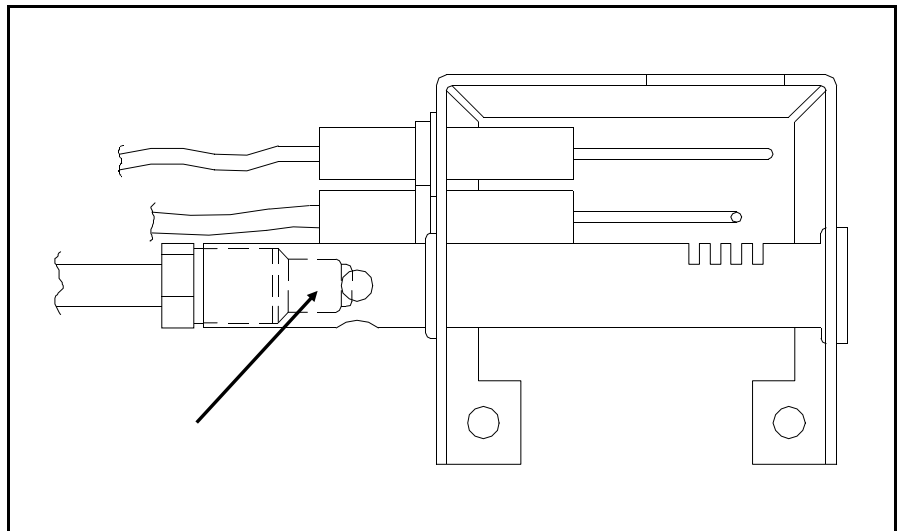

Figure 5.38 Burner Assembly
35. Check the Burner and Orifice shown in Figure 5.38 for any obstructions.